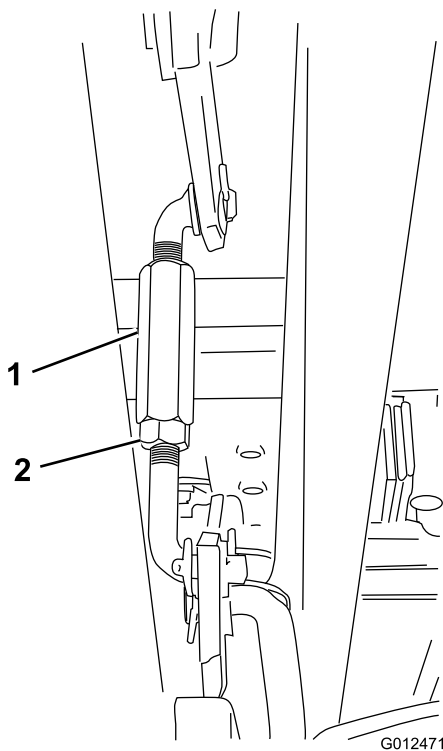

Figure 49
- Loosen the jam nut on at the end of the turnbuckle (on the right side of the machine; refer to Figure 49), and adjust the turnbuckle until the distance between